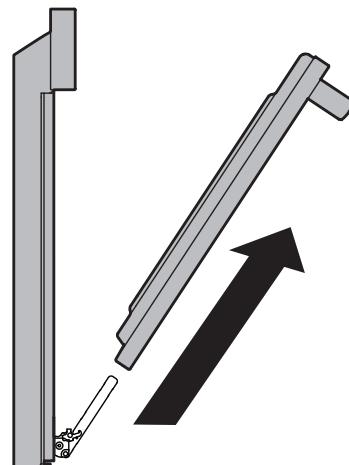

Figure 16: Remove door
4. Pull the bottom of the door toward you while rotating the top of the door toward the appliance to completely disengage the hinge levers (Figure 16).
1. Firmly grasp both sides of oven door along the door sides. Do not use the oven door handle (Figure 16).